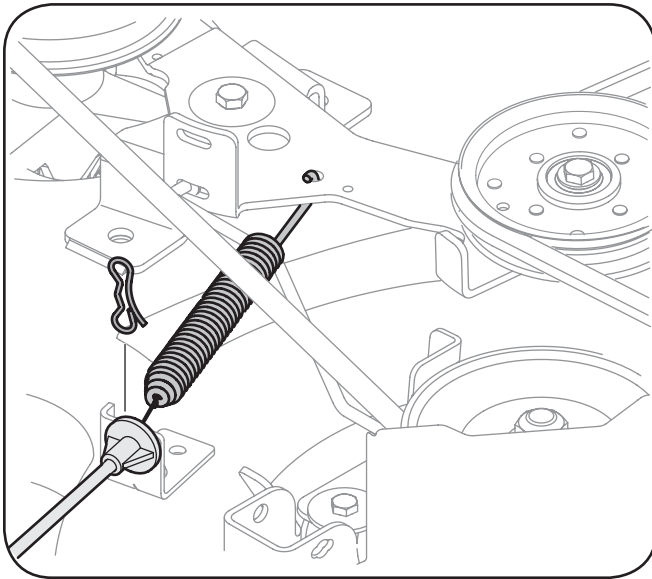

Figure 7-4
- Carefully remove the PTO cable from the rear of the cutting deck by removing the hair pin clip which secures it. Remove the spring from the deck idler bracket. See Figure 7-4.